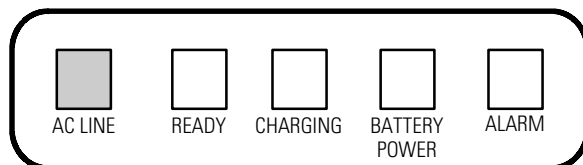

Figure 2. Front Panel Indicators
- The AC LINE indicator illuminates (see Figure 2).